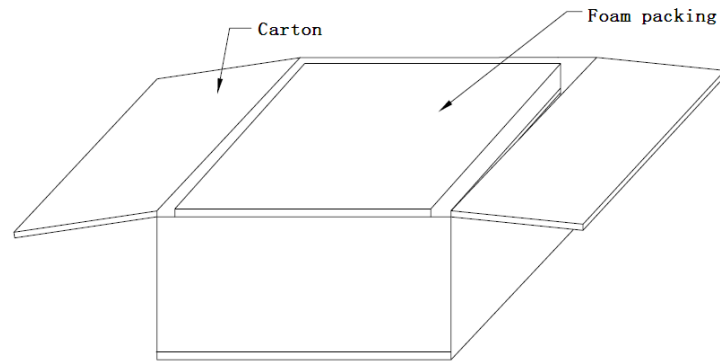

Fig.3-6 Open the carton
3. Cut the plastic packing belt and scotch tape to open the carton. (see Fig.3-6) .